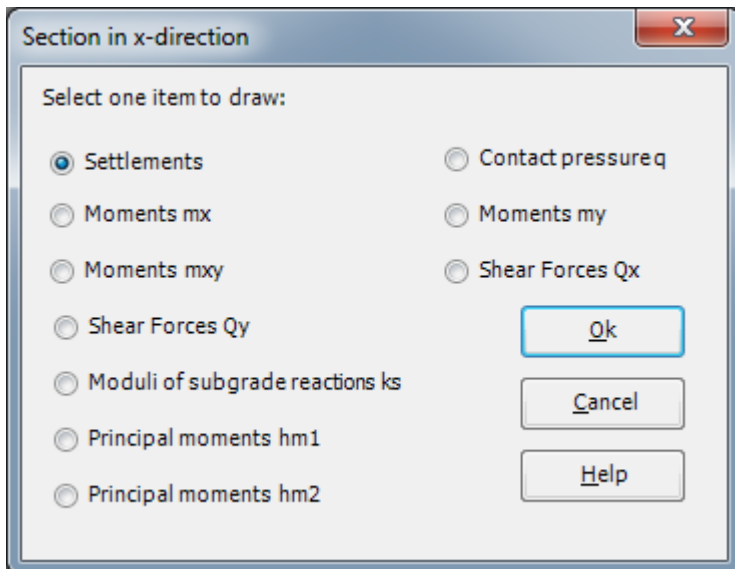

Figure 13.54 "Section in x -direction" option box
- Choose "Section in x -direction" command from "Section" menu in "Result" Tab. The following option box in Figure 13.54 appears